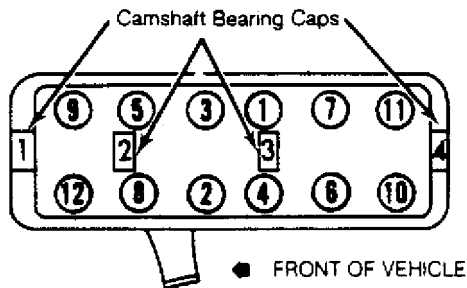

Fig. 2: Cylinder Head Tightening Sequence
5) Loosen head bolts in reverse order of tightening sequence. See Fig. 2. Ensure all wiring, hoses and lines have been disconnected from cylinder head and intake manifold before lifting head from block. Remove cylinder head with intake manifold attached.
3) Tighten cylinder head bolts in 3 stages. See Fig. 2. First step of head bolt tightening procedure is to 29 ft. lbs. (40 N.m). Second step is to 43 ft. lbs. (60 N.m). Third step is an additional 180 degrees in one movement (two 90 degree movements are acceptable).